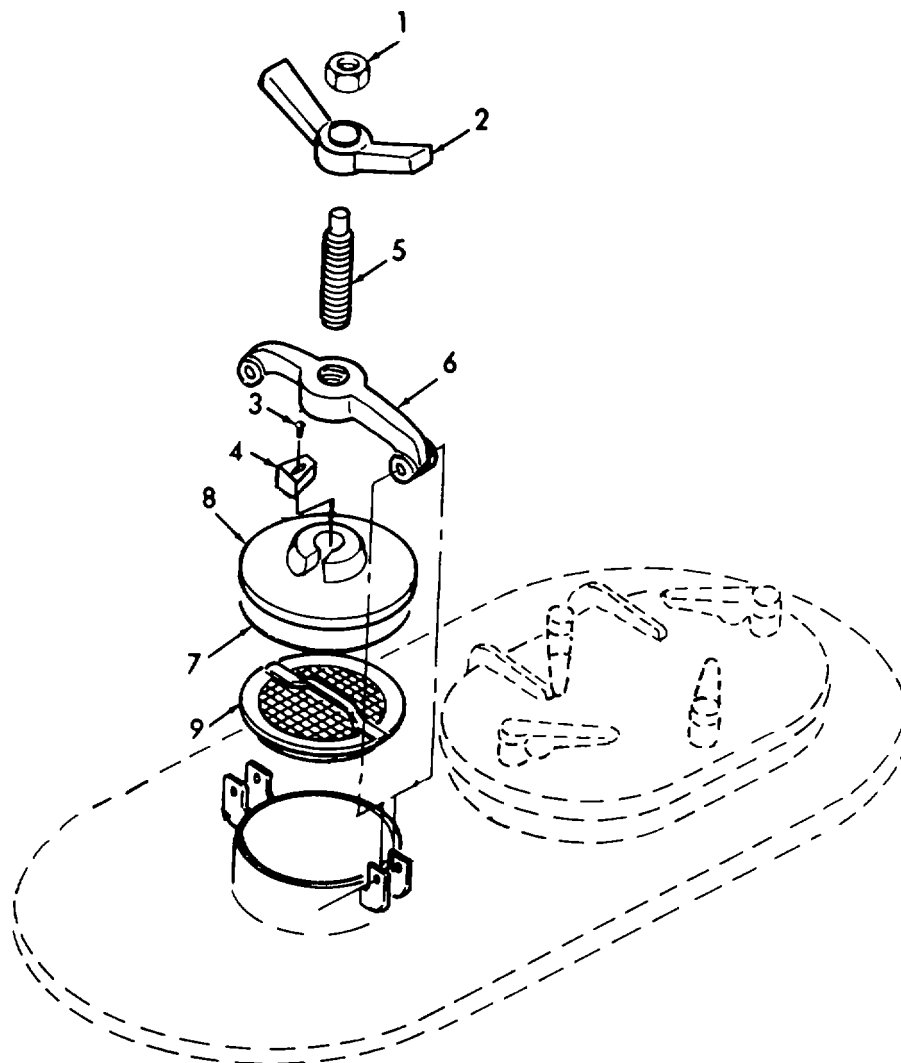

Figure 3-1. Ullage, Disassembly/Reassembly.
- a. Disassembly. (Refer to figure 3-1).
- (1) Remove nut (1) and wing nut (2).
- (2) Remove screw (3) and plate (4).
- (3) Remove stem (5), yoke (6), gasket (7), cover (8), and screen (9). Discard gasket (7).